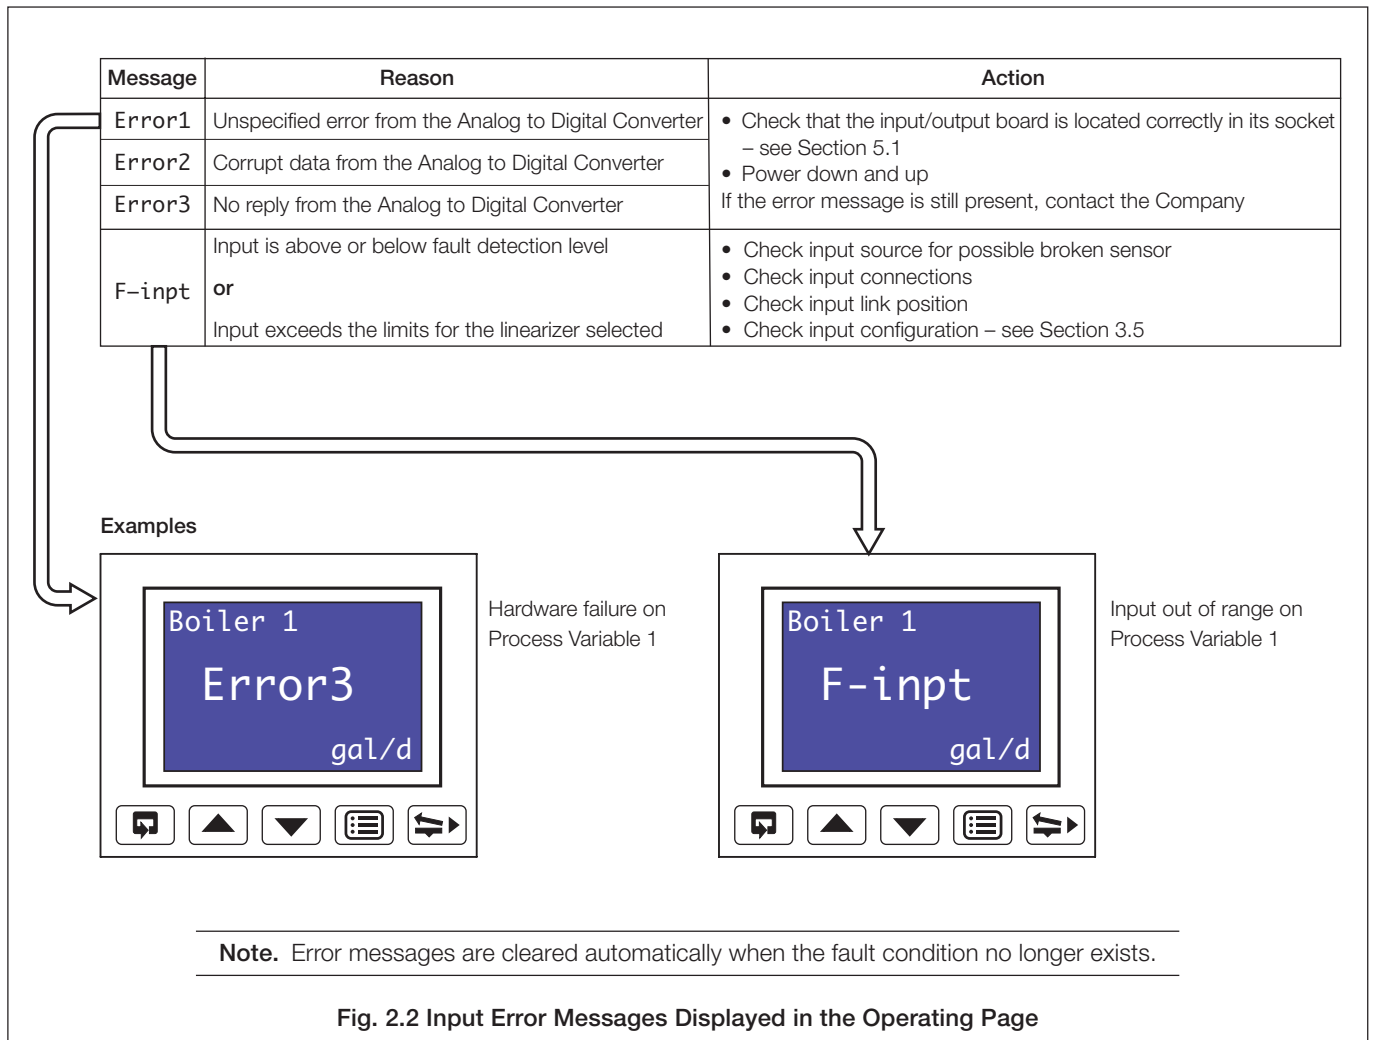

Fig. 2.2 Input Error Messages Displayed in the Operating Page
2.2 Input Error Messages and Alarm Icons – Figs. 2.2 and 2.3